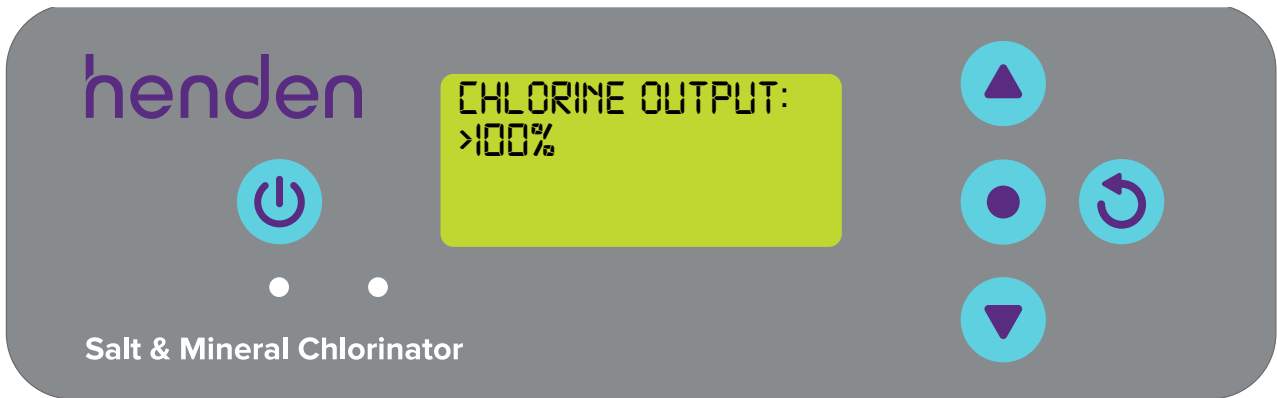

Figure 8.51
- Press the  **menu up/down** buttons to scroll to your chosen CHLORINE OUTPUT (Figure 8.51);